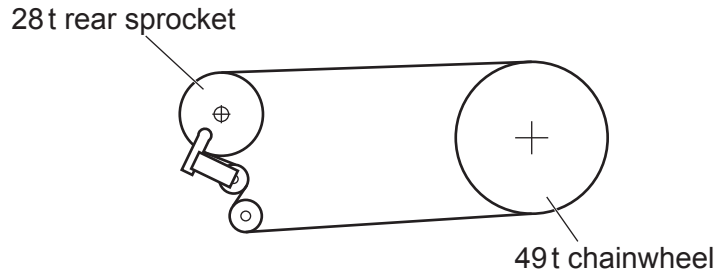

Fig. 11.4
- (iii) The chainwheel that drives the bicycle has 49 teeth. Calculate the Velocity Ratio when the chain is on the 28-tooth rear sprocket as shown in Fig. 11.4.